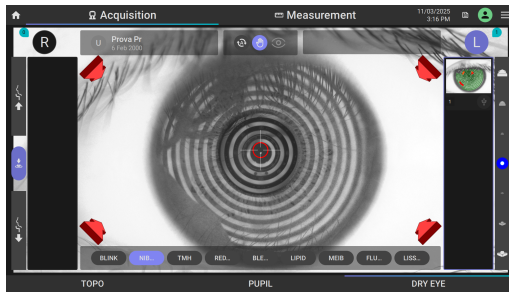

Figure 12.53: eye focusing
2. Focus the eye image (automatically or manually) until the green marks appear (Figures 12.53 and 12.54.)